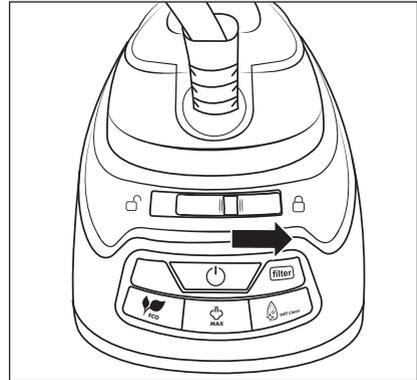

Fig. 8
- 4) Lock the steam iron **1** by sliding the locking switch **15** to the right towards **locked** (see Fig. 8).